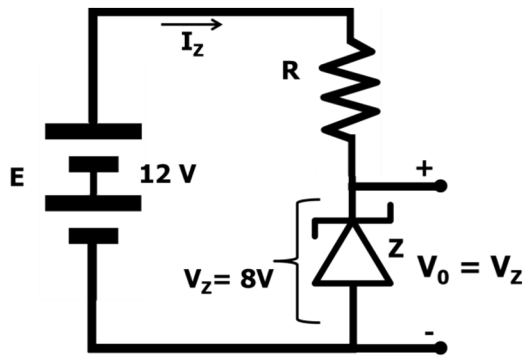

Fig 2.45
**Problem 2.20:** What should be value of R, in fig 2.45, if the Zener break down voltage is 8 V and  $P_D \text{ max} = 400 \text{ mW}$